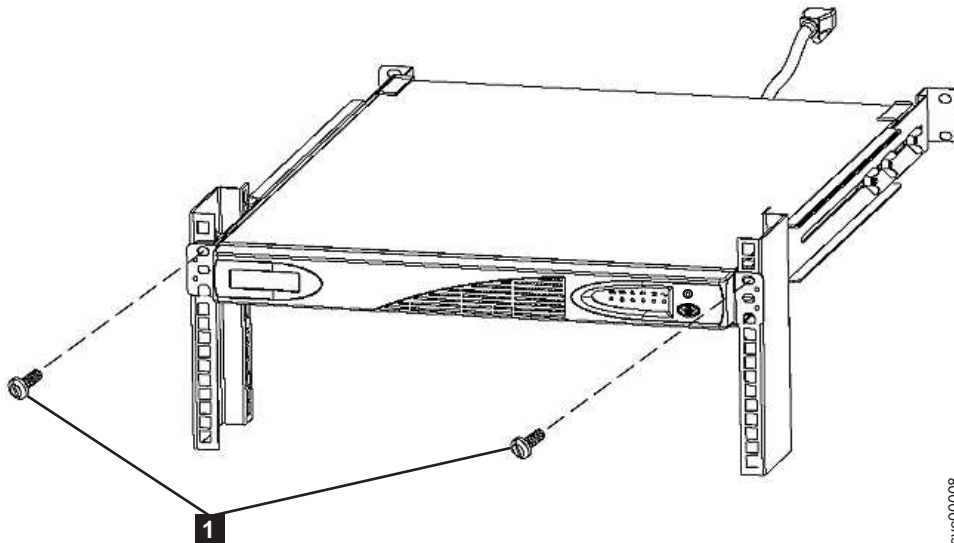

Figure 223. Mounting screws for the 2145 UPS-1U
9. At the front of the 2145 UPS-1U , unscrew the two mounting screws **1** , as shown in Figure 223 on page 270.